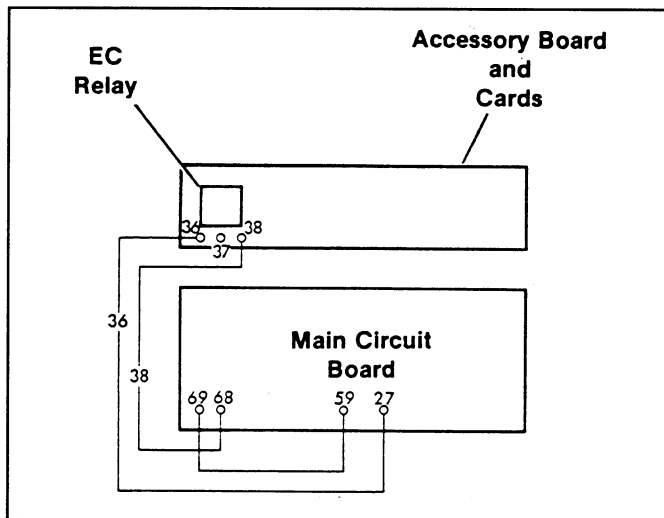

Figure 28. TDEC Connections.
□ Acc. 4-C – TDEC (Time Delay Engine Cool Off) – allows the engine to run at no load for an adjustable (1-30 min.) time after transferring back to normal. Upon normal source restoration and retransfer to the normal source, the TDEC timing circuit will begin and keep the engine running for a cool-down period. See Figure 28. for connections.